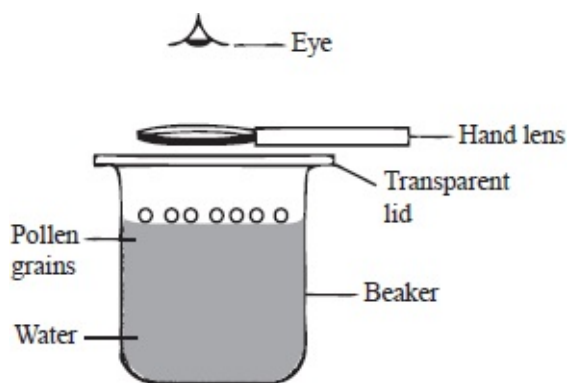

Fig. 5.4: Brownian motion
- Pour water into the beaker, about three quarters full, as shown in figure 5.4.